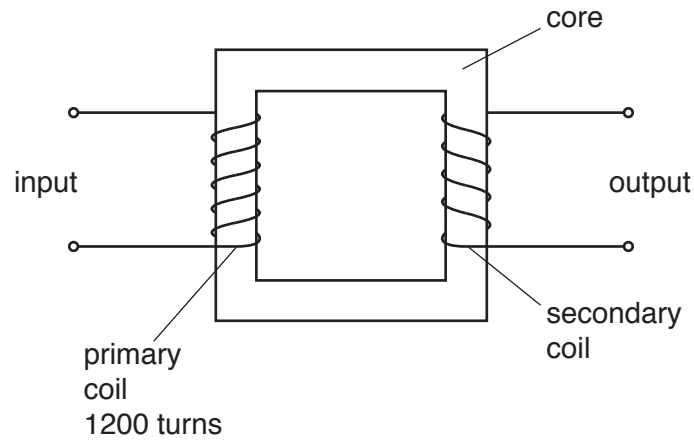

Fig. 9.1
- 9 An ideal transformer is shown in Fig. 9.1.